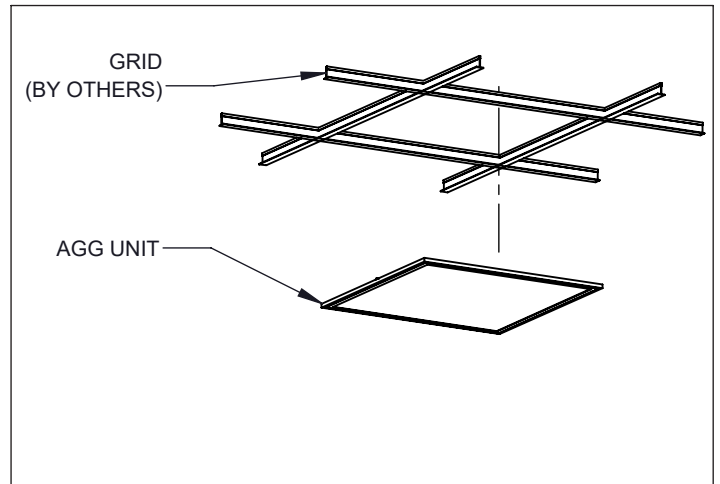

Figure 2
2. Raise unit into ceiling and lay in grid. (Fig. 2)